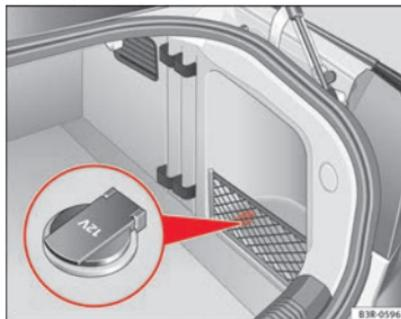

Fig. 124 Detailed view of the side trim in the luggage compartment: 12 volt power socket
- Lift the power socket cover ⇒ Fig. 124.